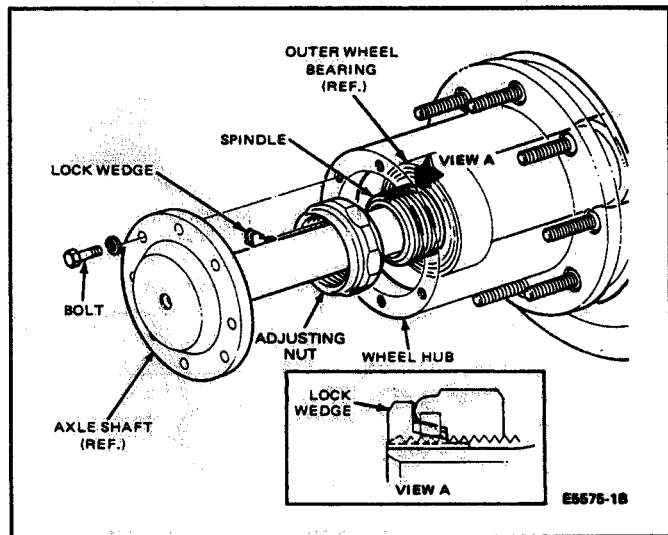

FIG. 6 Positioning Locking Wedge—E-350 and F-350
19. While rotating the wheel, tighten the adjusting nut to 163-189 N·m (120-140 ft. lb.) using special tool Hex Locknut Wrench T70T-4252-D or Octal Locknut Wrench T70T-4252-E. Back off the adjusting nut enough to get a 0.025-0.254 mm (0.001-0.010 inch) end play. This should require 1/8 to 3/8 turn. Position the locking wedge in the key way slot and pound wedge into position (Fig. 6).